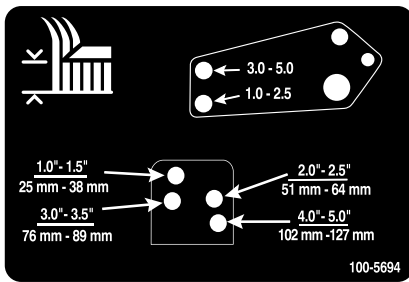

Figure 28
- Align the damper-link holes with the selected height-of-cut bracket holes in the mower-deck frame, insert the clevis pins, and install the hairpin cotter (Figure 28).